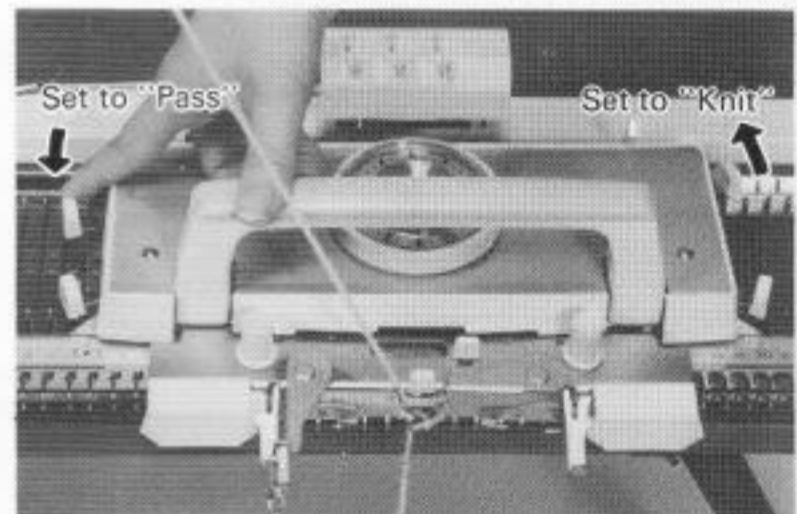

Fig.39
- b) Move both return cam levers to No.2 – forward position. (Fig.39)
- c) Set left hand guide cam lever to "PASS" and right hand lever to "KNIT". (Fig.39)